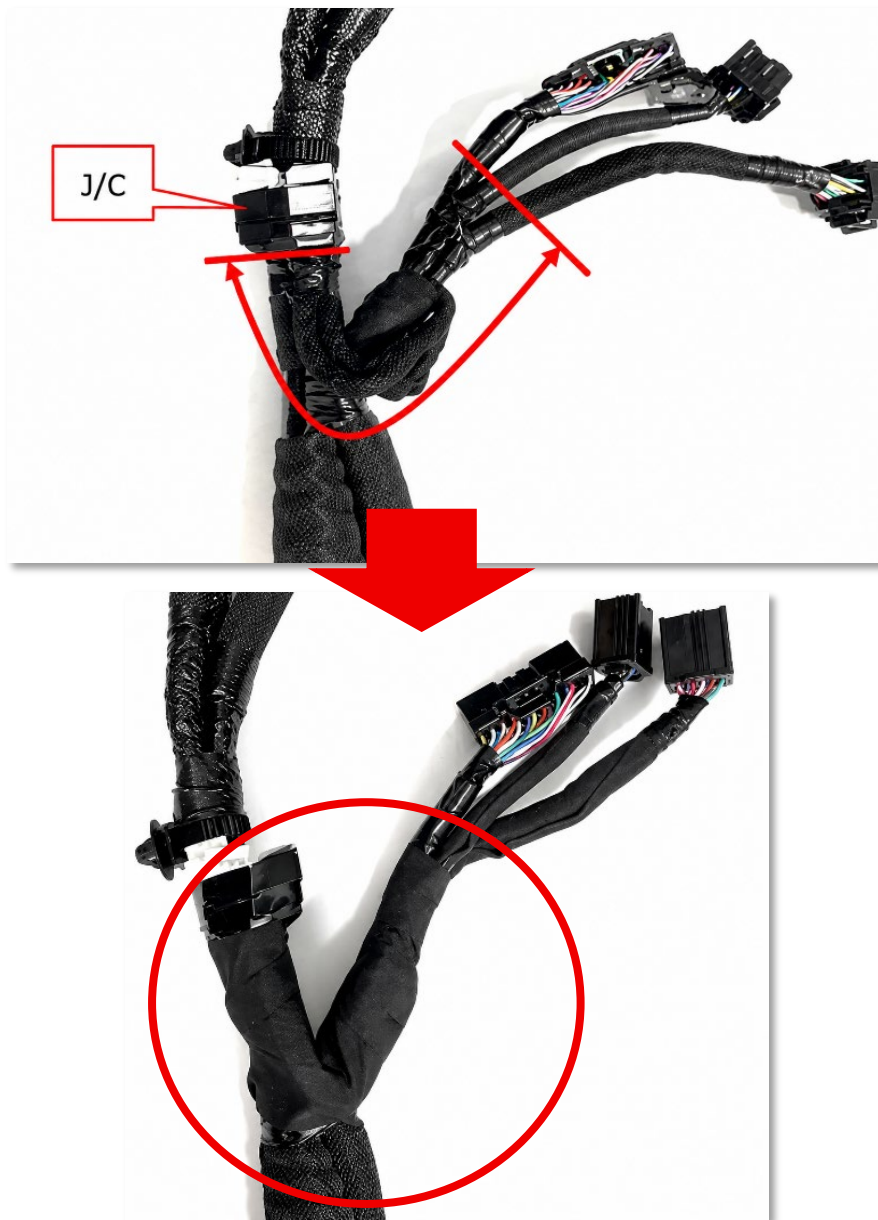

Figure 47
44. Location [B.]: Wrap the Tesa tape where the I/O Controller harness branch meets the BCM harness. (See Figure 47.)